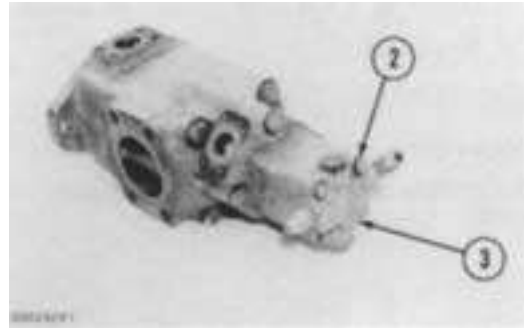

FIGURE 7-9
- Match mark the pilot pump body (3, Figure 7-9). Remove the bolts (2) that retain the pump body (3). Remove the pump body (3).